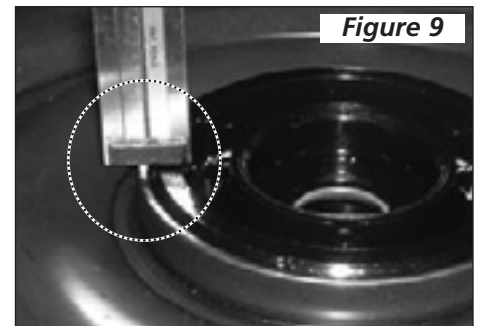

Figure 9
- From this point on the converter can be assembled. It is recommended that you keep endplay to less than .010" and clutch travel between .040" and .050". To check clutch travel, measure from the top of the plastic thrust spacer to the top of the release stop (see Figure 9).